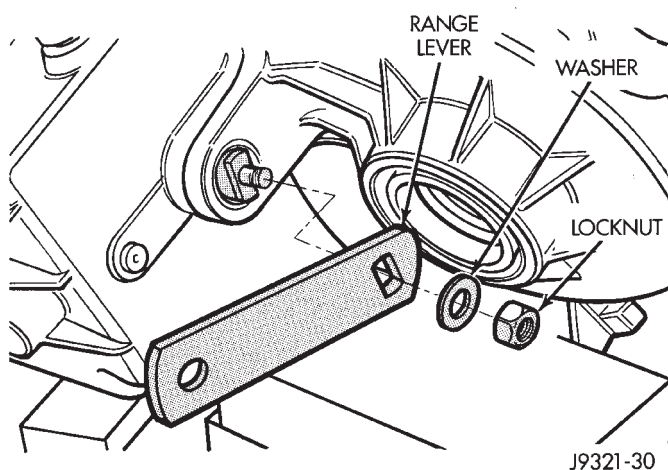

Fig. 45 Range Lever Removal
(31) Remove range lever locknut and remove lever and washer from shift sector shaft (Fig. 45).